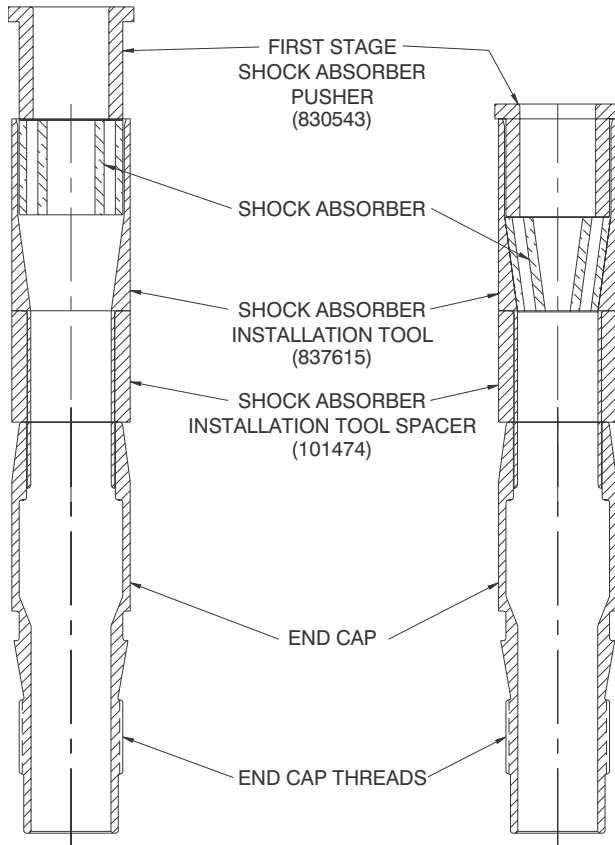

Figure 9-9. Compress Shock Absorber in Installation Tool
6. Center the First Stage Shock Absorber Pusher Tool, 830543, over the Shock Absorber as shown in Figure 9-9-A.
7. Compress the Shock Absorber in Installation Tool 837615 as shown in Figure 9-9-B.